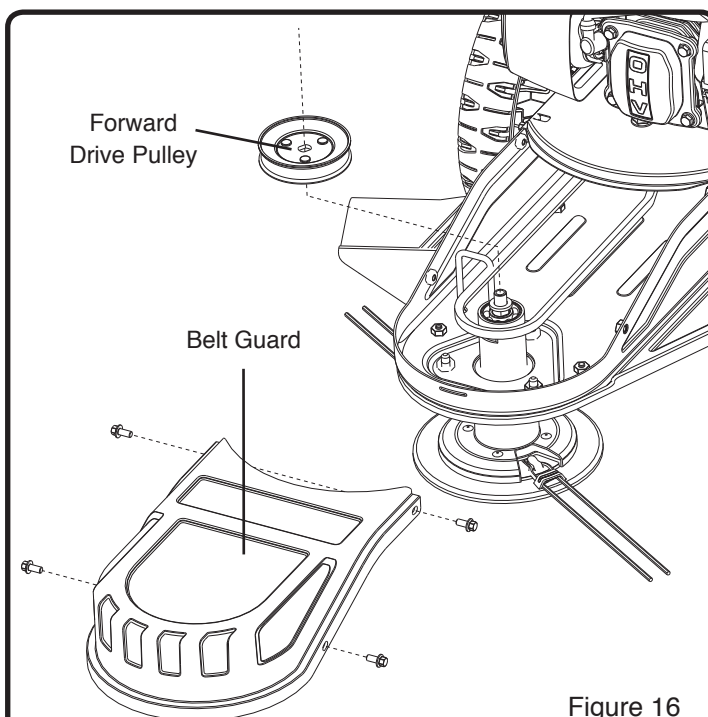

Figure 16
1. Remove the four fasteners that hold the plastic belt guard to the trimmer housing. (See Figure 16)
3. Remove the flange nut and washer that holds the forward drive pulley onto the trimmer head. (See Figure 16)